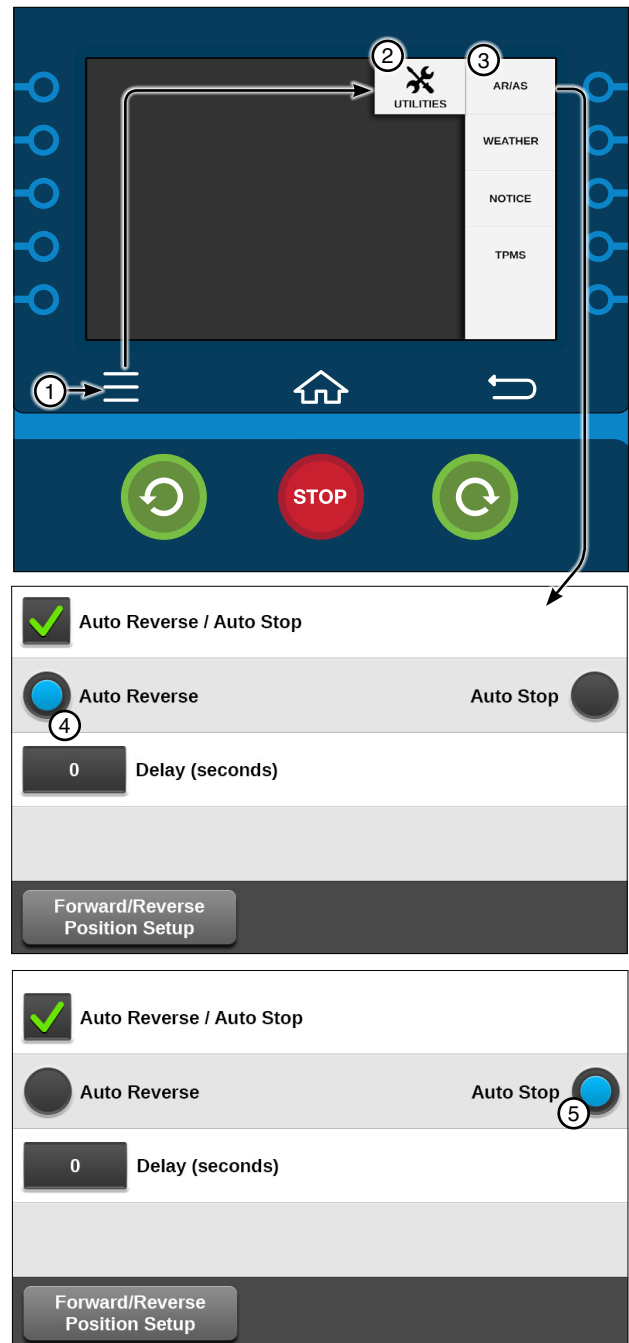

Figure 71-1 1. Menu
Auto Reverse Auto Stop (AR/AS) is used to enable Auto Reverse/Auto Stop, set the delay time when a machine is equipped with a drive-unit-mounted end-of-field auto reverse/auto stop, and to set points at which the machine will switch directions. Refer to Figure 71-1.
- **Auto Reverse;** If AR/AS is on, Water is on, and the Auto Reverse/Auto Stop option is set to Auto Reverse, when the actuator arm is tripped or when the forward/reverse boundary is reached the machine changes direction, disables the percent timer, waits for the set AR/AS delay time, and then enables the percent timer and continues running. Refer to Figure to Figure 71-1.
- **Auto Stop;** If AR/AS is on, Water is on, and the Auto Reverse/Auto Stop option is set to Auto Stop, when the actuator arm is tripped or when the forward/reverse boundary is reached the machine changes directions, disables the percent timer, waits for the set AR/AS delay time, and then shuts down. Refer to Figure 71-1.